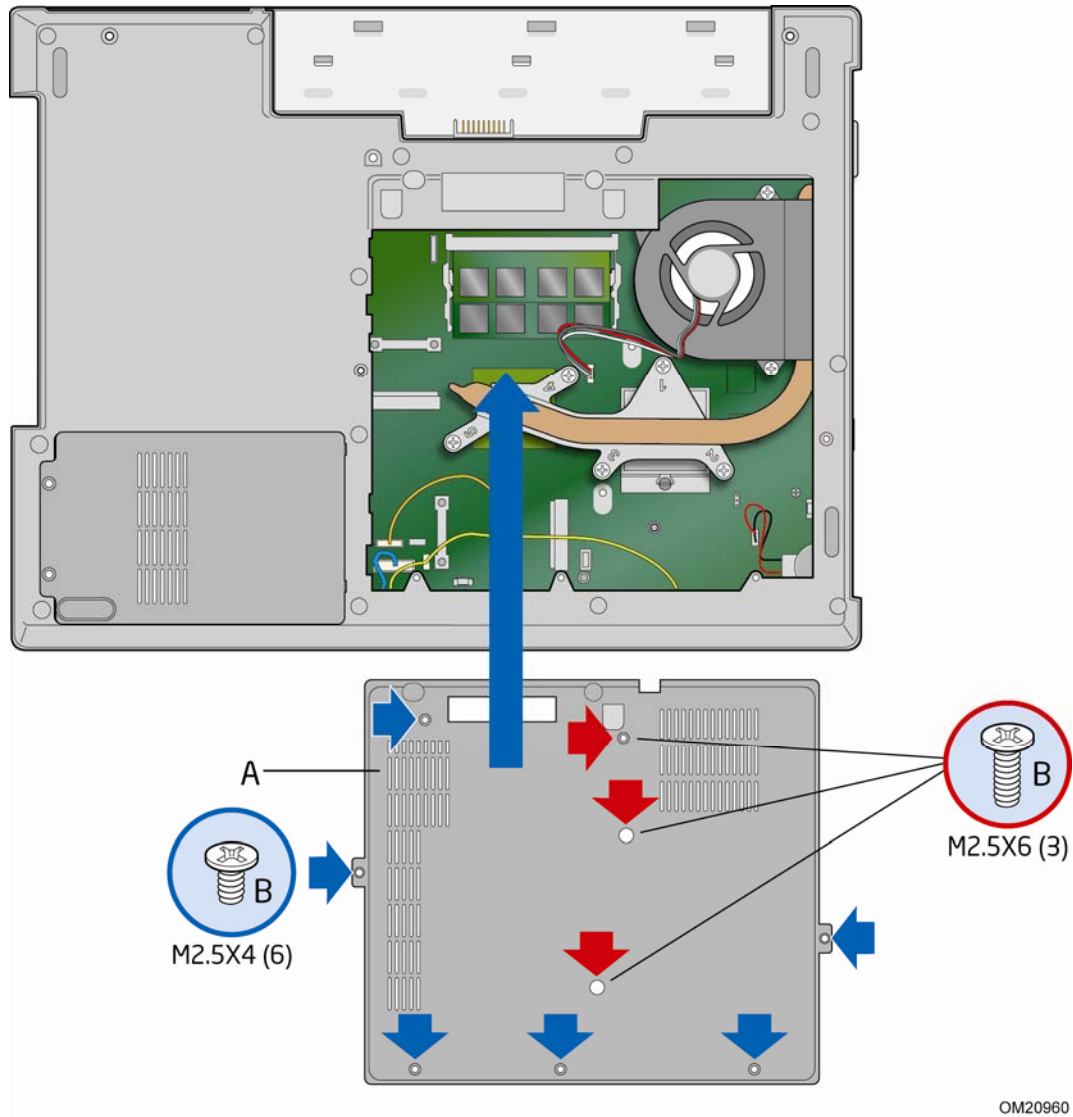

Figure 32. Installing the D-tray Door
To install the D-tray door, see Figure 32 and follow these steps:
1. Align the D-tray door (Figure 32, A) with the opening in the D-tray and lower the door into place.
2. Secure the door to the D-tray with nine screws (Figure 32, B) as shown in the figure.
3. Turn the computer over and remove the D-tray door by removing the nine screws holding it in place (see Figure 32).
13. Replace the D-tray door (see Figure 32), insert the battery pack or connect the AC adapter, and turn on the computer.